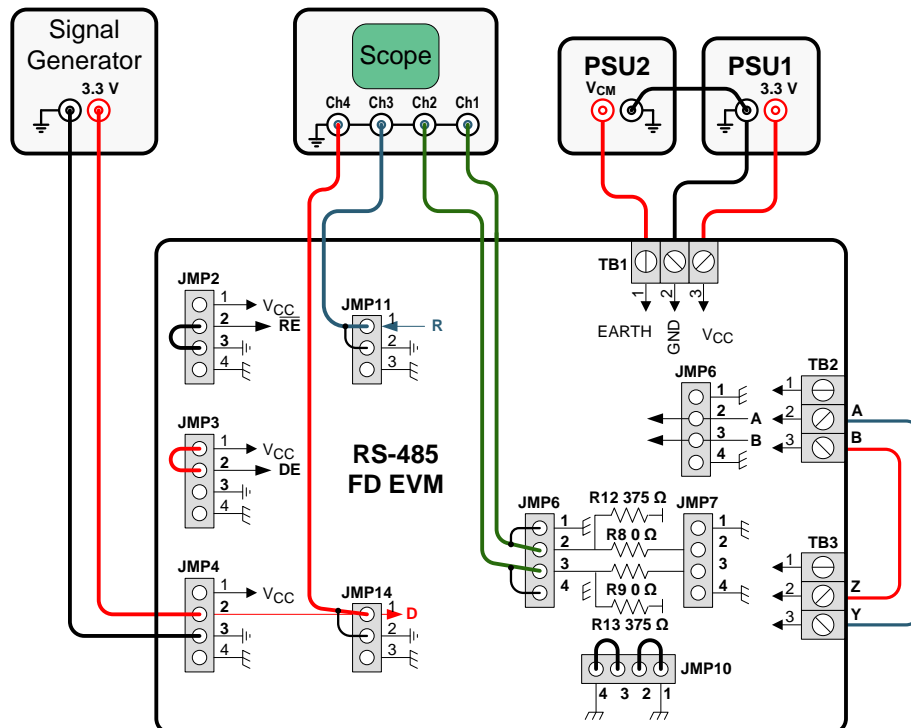

Figure 7. RS-485 Full-Duplex EVM Setup for Maximum Loading
- Replace the previous wire-bridge at TB1 with a second power supply unit (PSU2) and connect the ground terminals of PSU1 and PSU2 with a wire-bridge, as show in Figure 7.
Note that Figure 7 only shows the wiring of PSU2 for positive common-mode voltages. For negative  $V_{(CM)}$ , connect the ground terminal of PSU2 with pin 1 of TB1 (EARTH), and the  $V_{(CM)}$ -output of PSU2 with the ground terminal of PSU1.